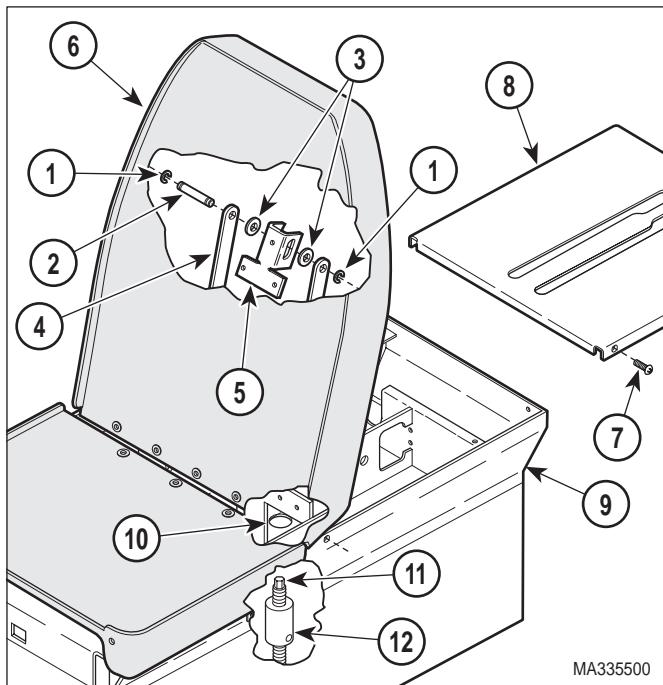

Figure 4-2. Extending Base Actuator
- c. While supporting back section, remove two e-rings (1, Figure 4-2), clevis pin (2), two bearing washers (3), and two link bars (4) from back pivot bracket (5).
- d. Fold back section (6) toward front of table and prop up.
- e. Remove four screws (7) and back cover (8) from upper wrap weldment (9).
- (15) Lower bellows (4) against lower base weldment (3); then slide two bellows retainer trim (2) over bottom of bellows and secure with four screws (1).
- (16) If removed, install back cover (8, Figure 4-2) on upper wrap weldment (9) and secure with four screws (7).
- (17) If disconnected, connect two link bars (4) to back pivot bracket (5) with two bearing washers (3), clevis pin (2), and two e-rings (1).
- (18) If base capacitor was bypassed, remove bypass wires (Refer to para 4.29).